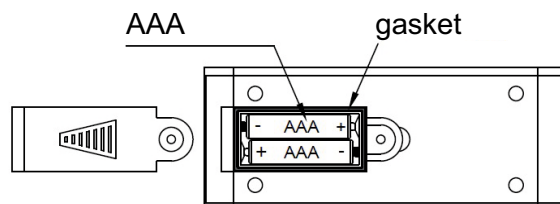

Fig.3
- » Insert two AAA batteries as shown in Fig.3, make sure the seal is in the groove, and install the battery.